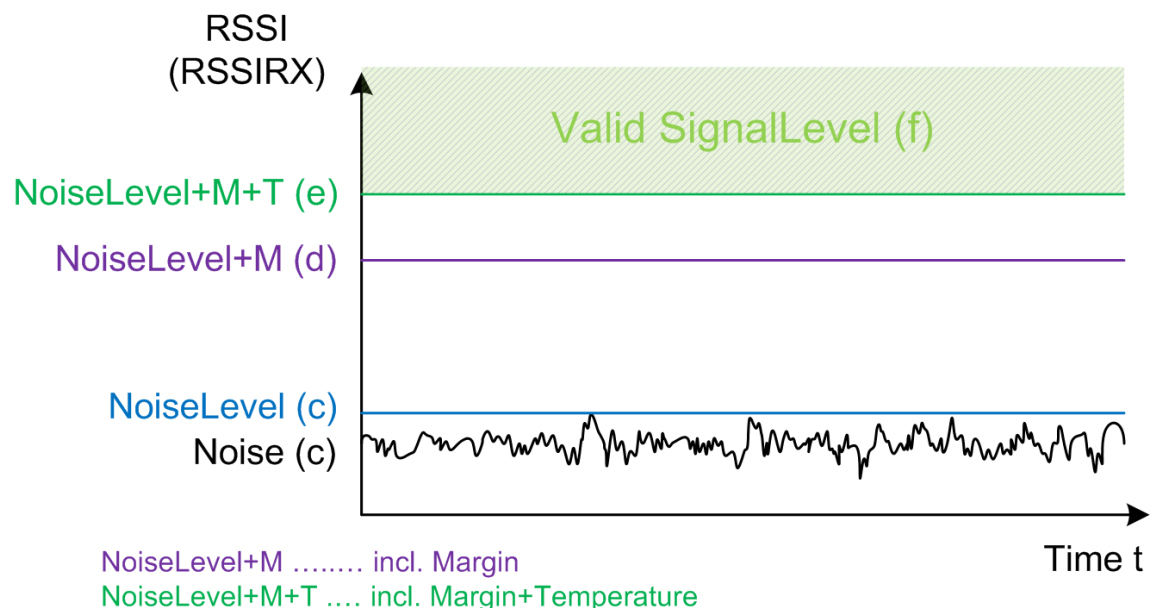

Figure 1: Graphical Overview
- f) So the actual measured RSSI value in the application would need to be larger than **NoiseLevel_inclMargin_inclTemp** (see Figure1).